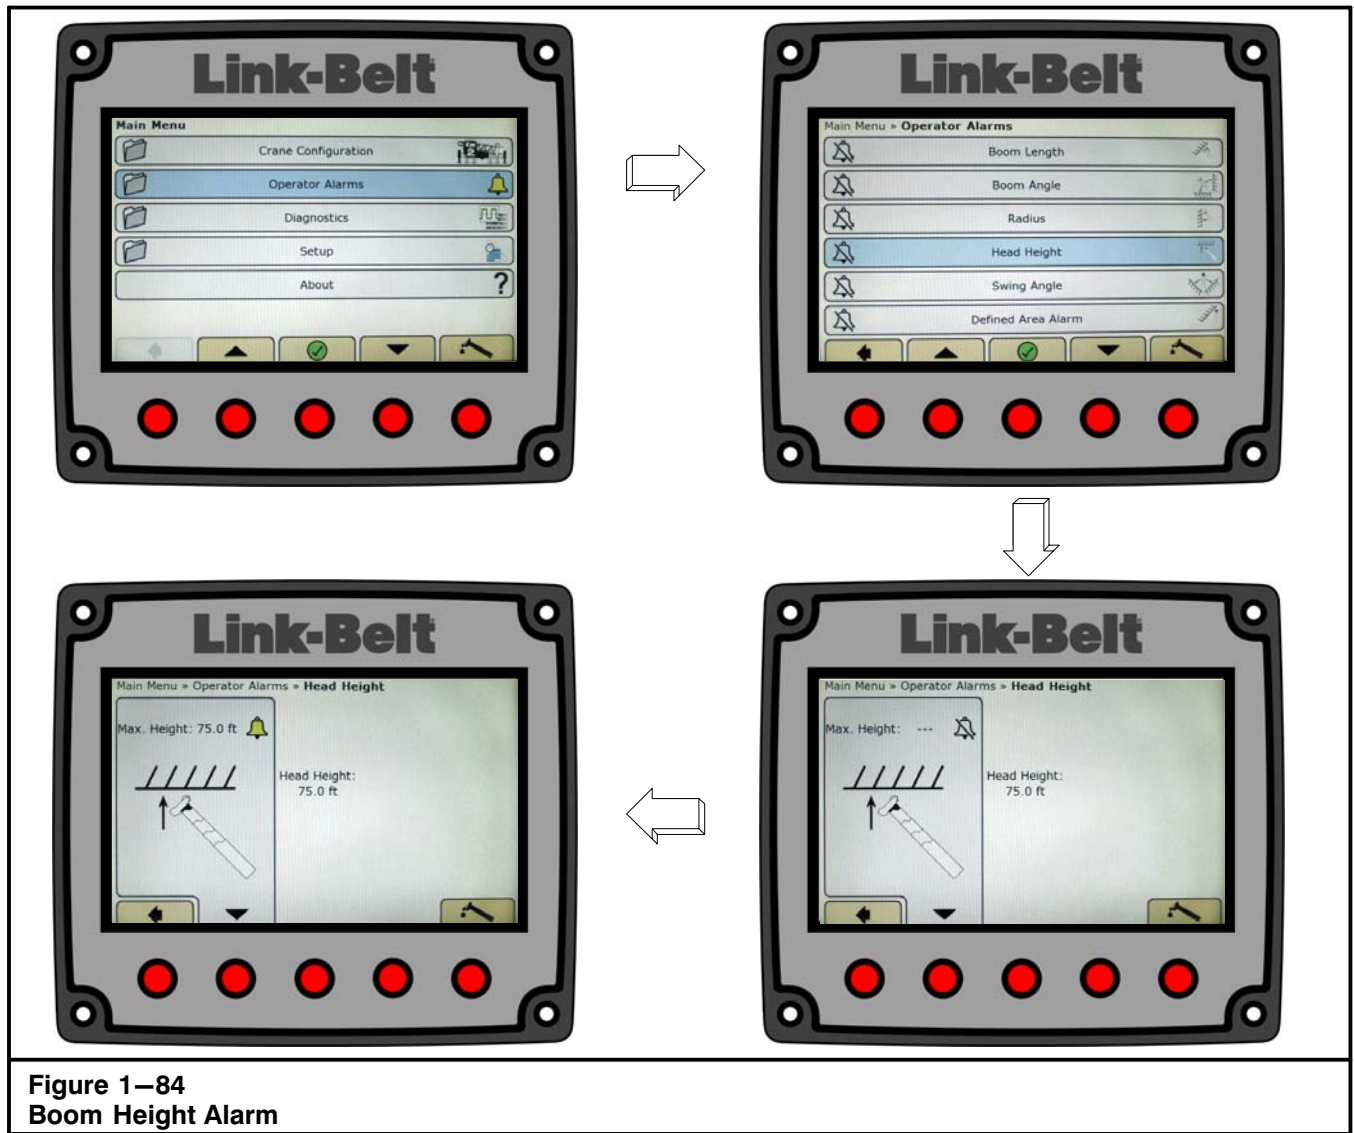

Figure 1–84
1. From the normal working screen, press the Main Menu button . Refer to Figure 1–81.
2. Scroll to Operator Alarms, and press the OK/Enter button . Refer to Figure 1–84.